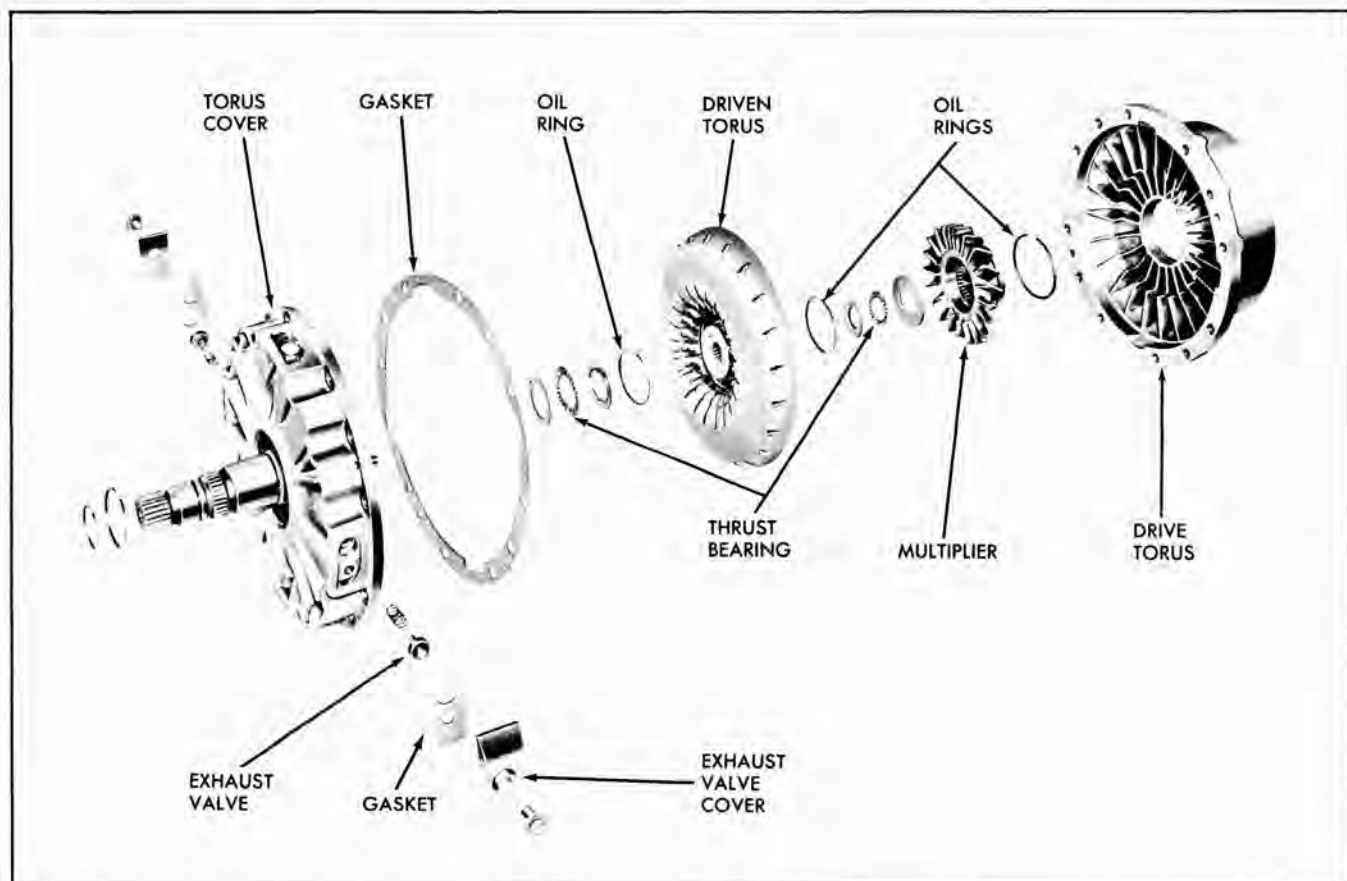

Fig. 126 Torus and Multiplier Assembly—Exploded
2. Install hook type oil ring on torque multiplier hub, if removed (Fig. 126).